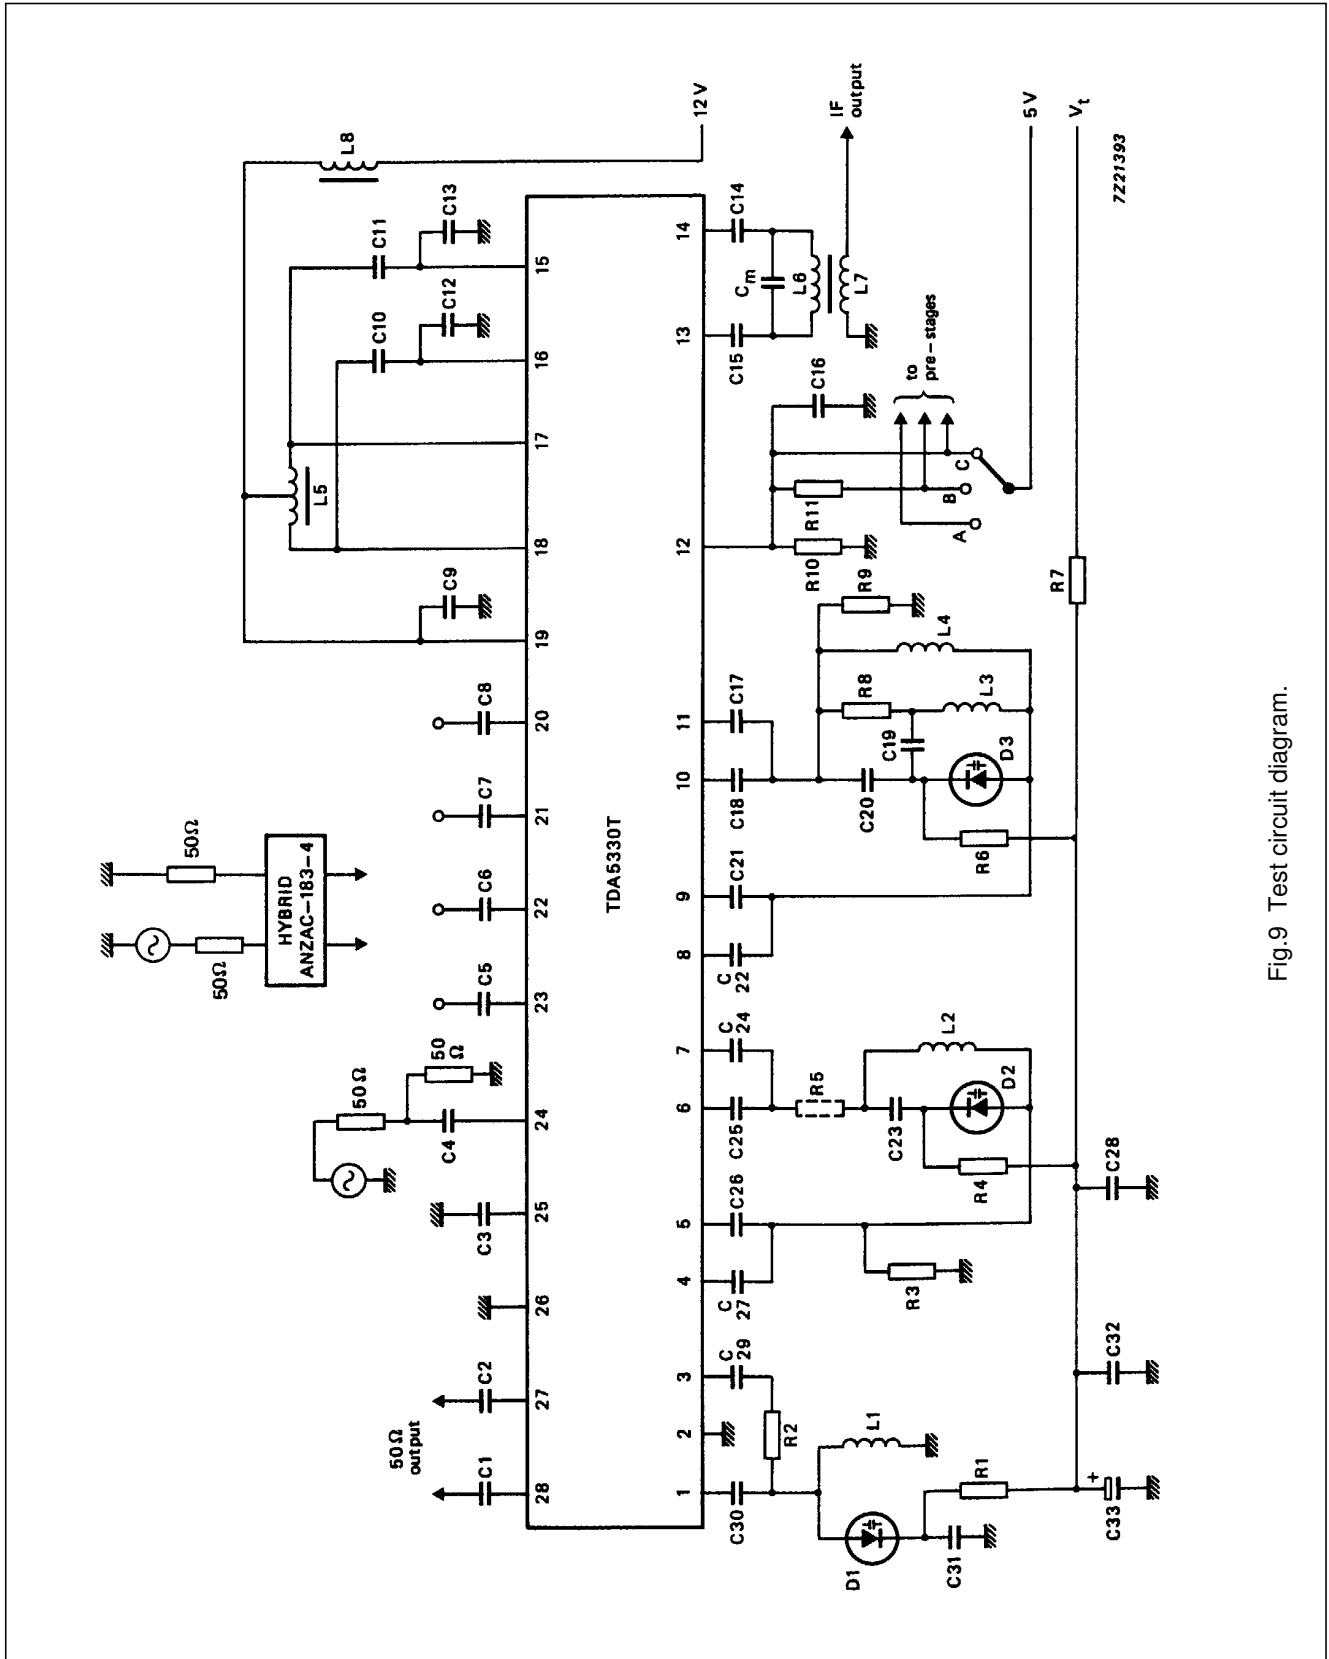

Fig.9 Test circuit diagram.
measured using circuit shown in Fig.9 measurements using hybrid; note 2
measured using circuit shown in Fig.9; measurements using hybrid; note 2
4. The gain is defined as the transducer gain (measured in Fig.9) plus the voltage transformation ratio of L6 to L7 (6:1, 16 dB).